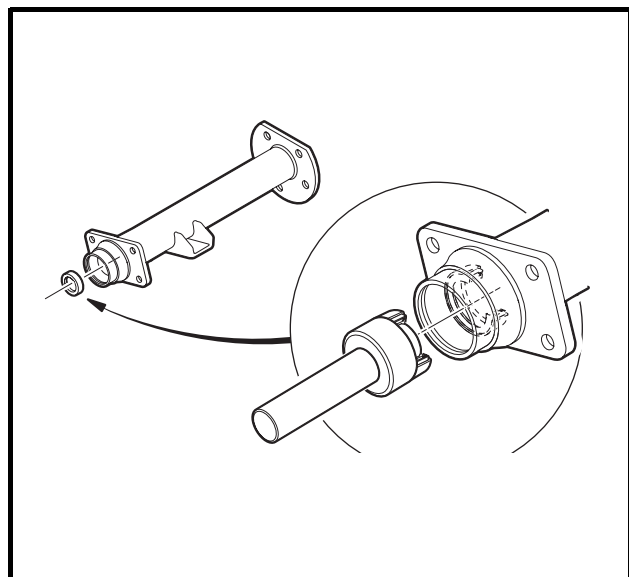

Figure 16-4 Axle Seal and Adapter Ring Installation
- 1.5. Place the oil seal and adapter ring assembly into the axle tube with the seal lip facing away from the bearing (**Figure 16-4, Page 16-2**). Use an axle seal tool (CCI P/N 1014162) and mallet to tap it in until it seats firmly in position. **See following CAUTION.**